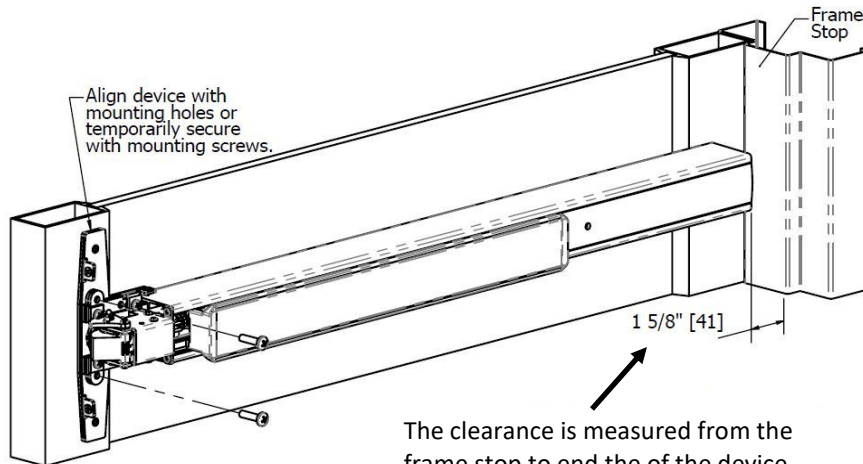

Figure 5-1
- B. Align device with mounting holes and measure to determine length to cut device. The clearance between the frame stop and end of exit device (with end cap removed) is 1-5/8" (See Figure 5-1).